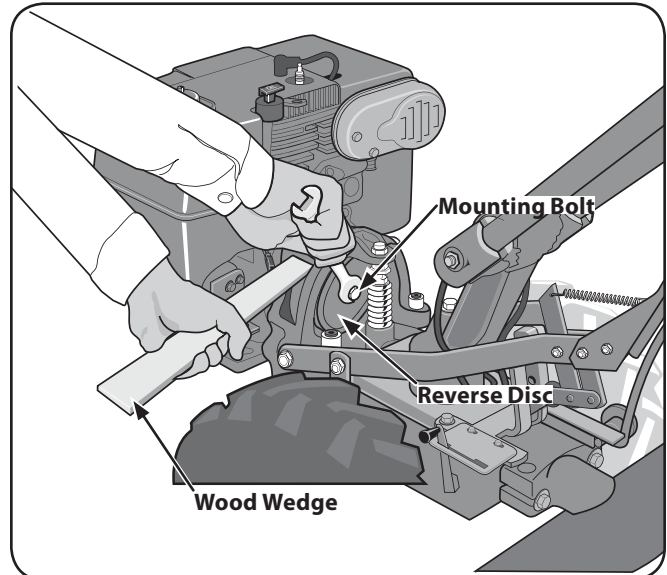

Figure 7-6
3. Use a $\frac{5}{16}$ " wrench to loosen the mounting bolt shown in Fig. 7-6. Remember to immobilize the pulley with the wood wedge while loosening the bolt. If necessary, pry the disc from the pulley with the tip of a screwdriver. Back the bolt out as far as possible. Then angle the disc a little to remove it. Bring the bolt and lockwasher along with the disc. Installing a new Reverse Disc.